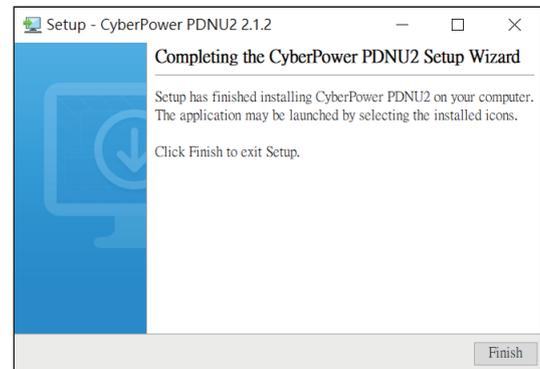

Figure 4
Step 5. Select **Finish** to finalize the installation (Figure 4).